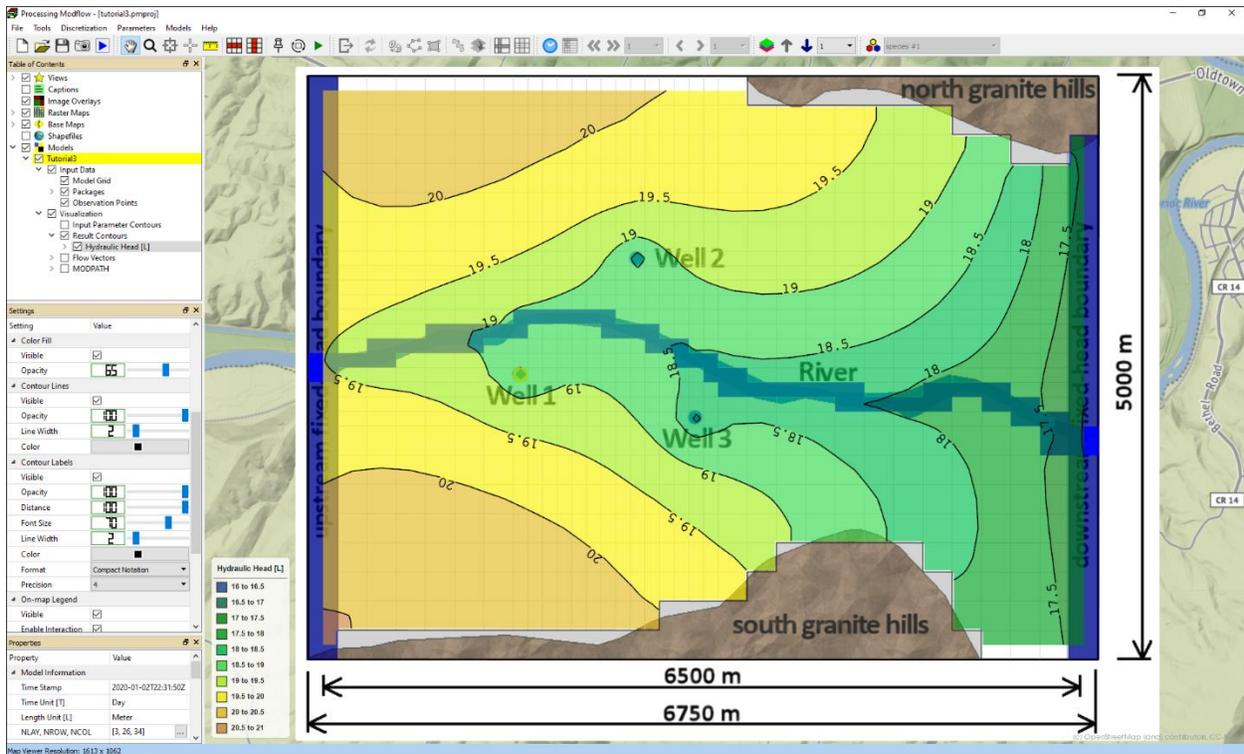

Figure 14. Color-filled hydraulic head contours of Layer 1
4. Click the “Hydraulic Head [L]” item and adjust its display with the controls on its Settings window. Figure 14 shows the color-filled contours with a legend and a larger font size for contour labels. See User Guide of PM for details about the available settings.